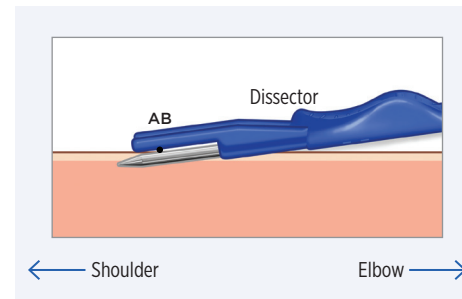

Figure 3
3. With the tips of the depth guards on the skin and the blunt dissector at the subcutaneous space, lower the angle of skin entry to approximately 5–10 degrees (Figure 3) taking care to ensure that the fingers are not under the metal rod or plastic portions of the tool which would cause a steeper angle.
4. Move the blunt dissector toward the shoulder, while maintaining the metallic and plastic parts of the tool in close contact with the skin to ensure the smallest possible angle of the pocket with respect to the skin (Figure 3).